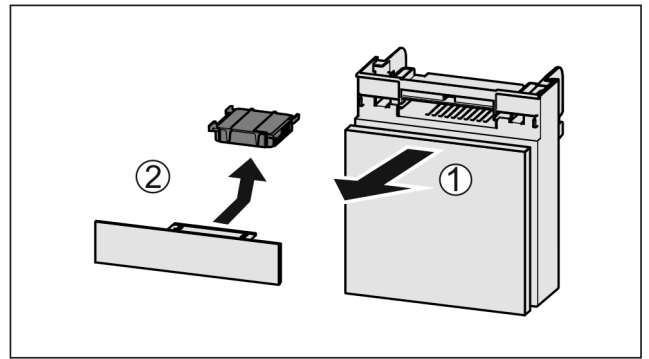

Fig. 103
- ▶ Pull out the compartment *Fig. 103 (1)*.
- ▶ Remove the carbon filter *Fig. 103 (2)*.